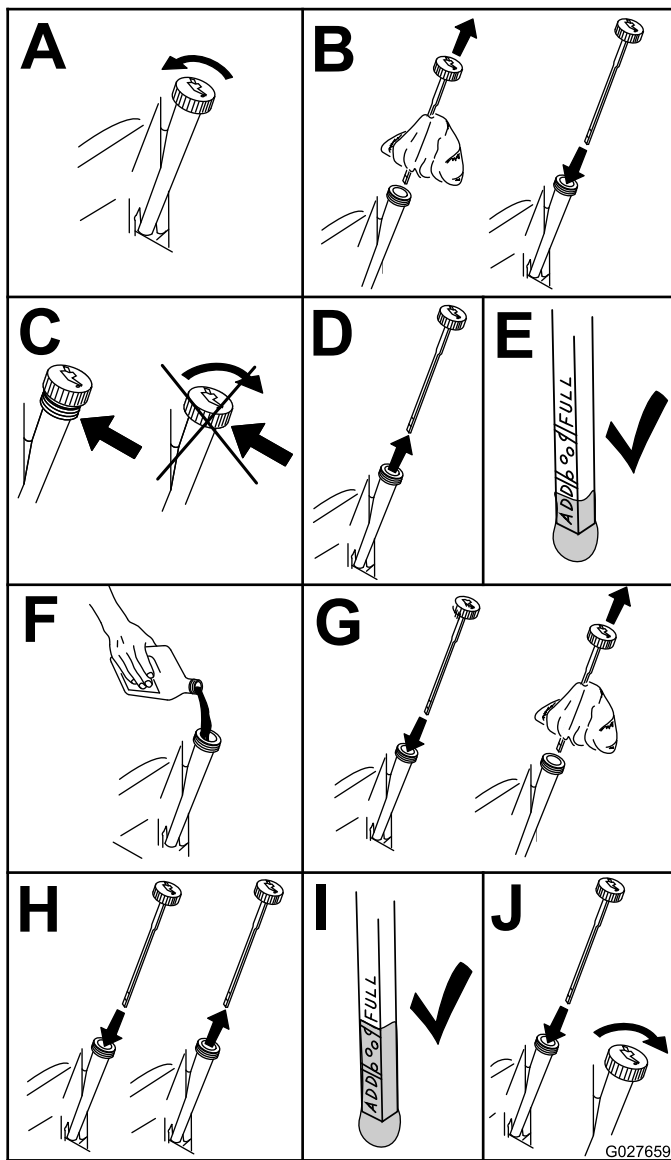

Figure 30
4. Check the engine-oil level (Figure 30).